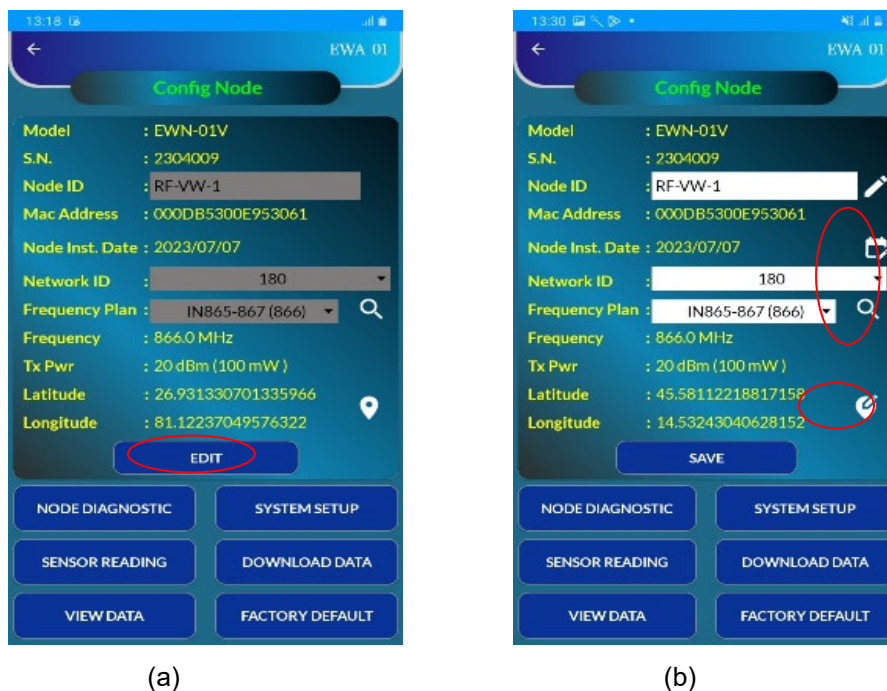
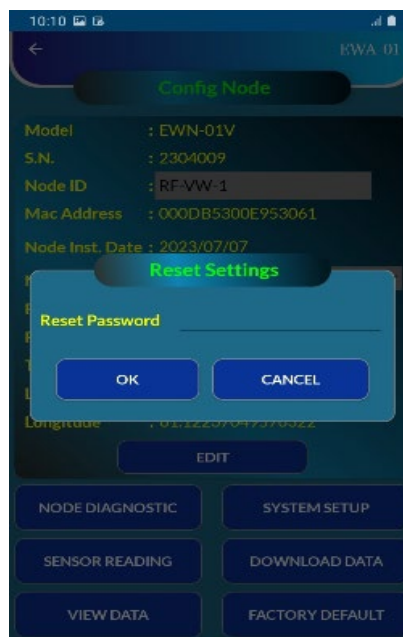

Figure 6-8 Config node
Figure 6-18 Reset settings to factory default
- Click on the Calendar Icon as shown in figure 6-8 (b) to enter the "Node Inst. date".
- For setting Latitude and Longitude of respective installation location, click on the location icon as shown in figure 6-8 (b). A prompt window will appear as shown in figure 6-9 (a)
- Tap the "SYSTEM SETUP" button as shown in the figure 6-8 (b). A new window will appear as shown in figure 6-10 (a).
- Tap the "SENSOR READING" tab from "Config Node" screen (figure 6-8 (a)) to see the real-time readings of connected sensor as shown in figure 6-12.
- Press "Download Data" button from "Config Node" screen (figure 6-8 (a)). A window as shown in figure 6-13 will appear. Two options are provided to download the data:
- To reset the node, click on the "FACTORY DEFAULT" tab from "Config Node" screen (figure 6-8 (a)). A prompt window asking for reset password will appear as shown in figure 6-18.